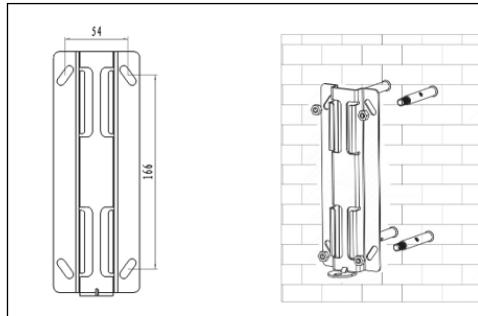
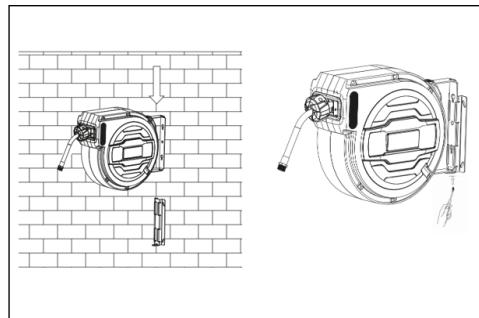

Fig. 1 - (29662/29669)
Fig. 4
5. Installation (Fig.1 - Fig.4)